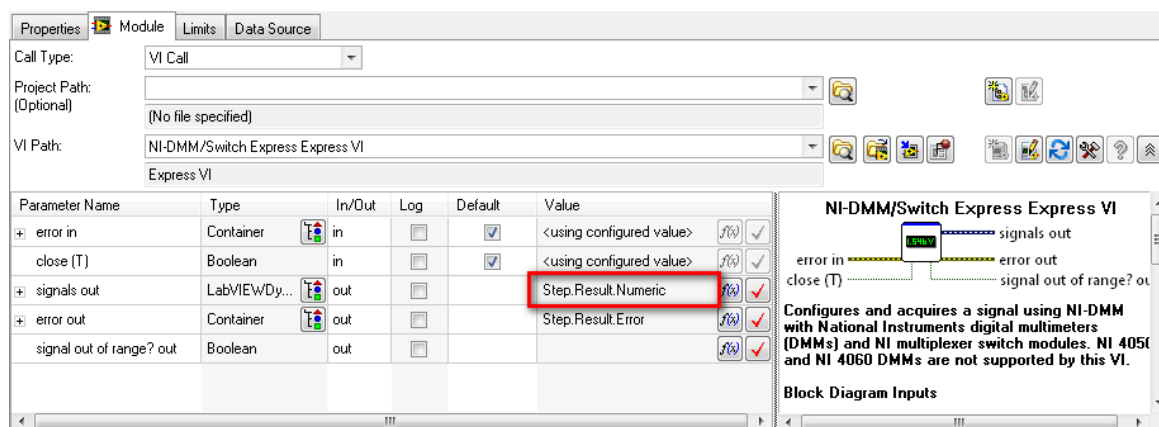

Figure 1-14. Step Settings for LED Test Window
- In the *Value* field of the *signals out* terminal, type in Step.Result.Numeric (See Figure 1-14). This property will now contain the measured DMM value which will be compared to the limits defined in the step.